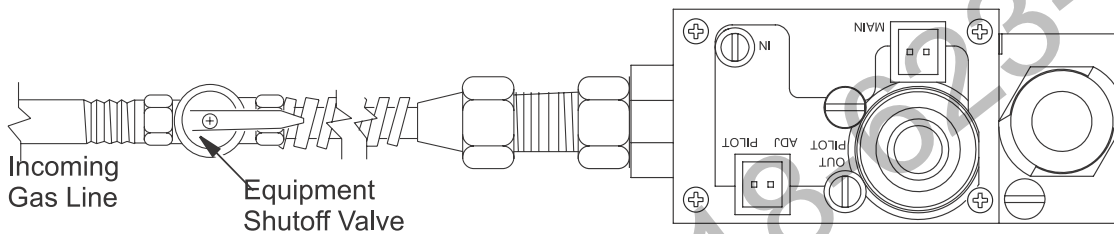

Figure 38 - Turning Equipment Shutoff Valve to the OFF Position
5. Turn equipment shutoff valve clockwise ↻ to the OFF position (see Figure 38, page 27). Do not force.
6. Wait five (5) minutes to clear out any gas. Then smell for gas, including near the floor. If you smell gas, STOP! Follow "B" in the safety information. If you don't smell gas, go to the next step.